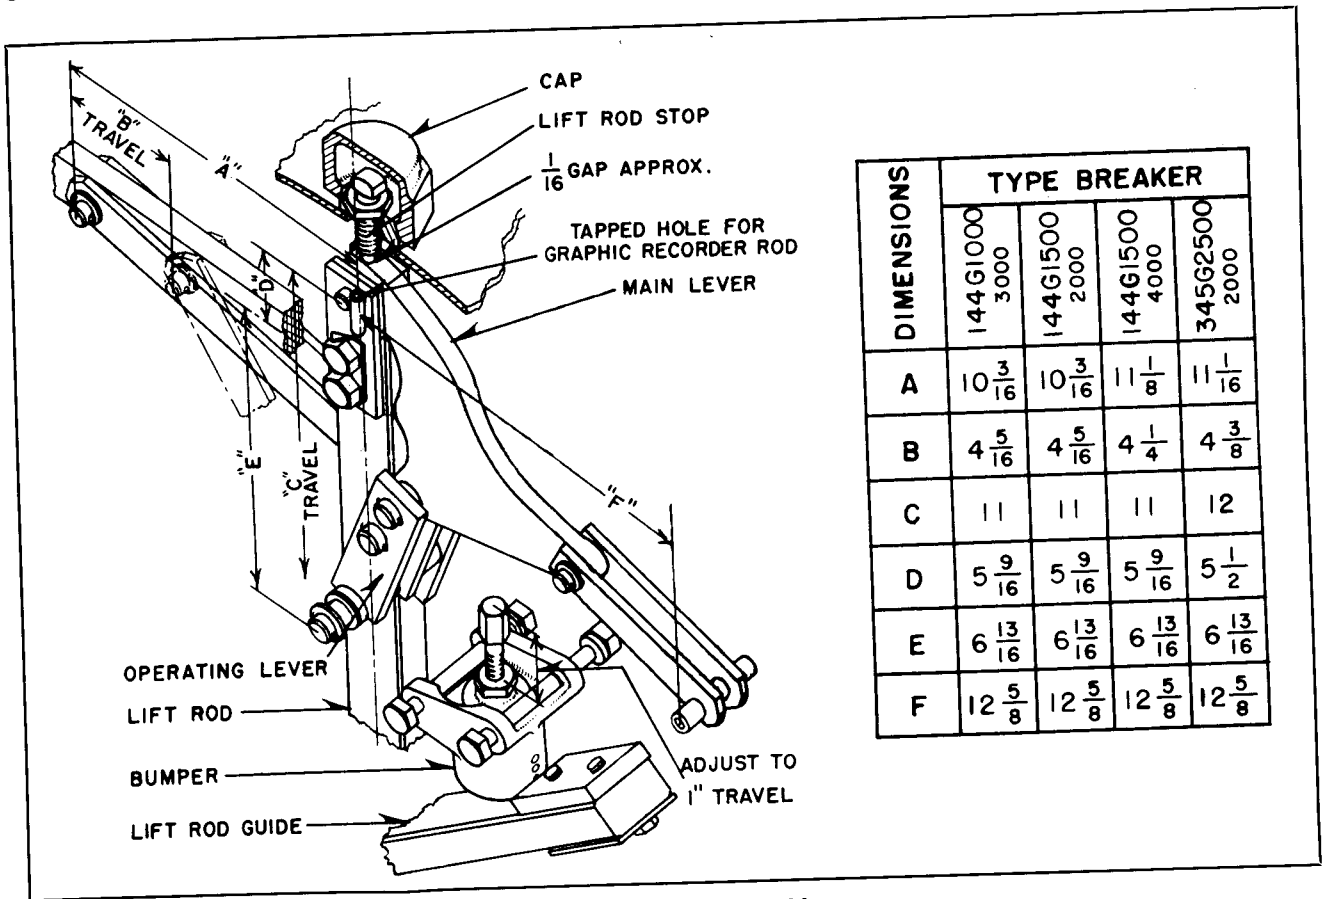

FIG. 3. Pole Unit Assemblies
4. The pole unit lever assemblies. These are an assembly of levers, designed to transfer horizontal motion of the pull rod into straight-line vertical motion of the lift rod. (See Fig. 3).